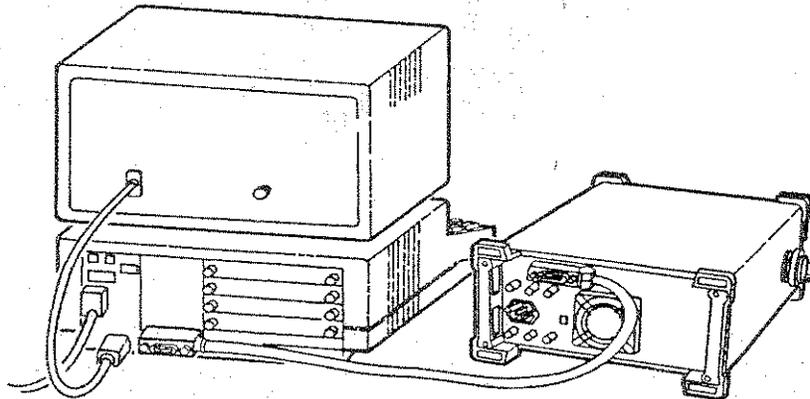

Figure 1-1
1. Connect the analyzer to the computer using the HP-IB cable. Figure 1-1 shows an HP Model 9836 connected to the analyzer.